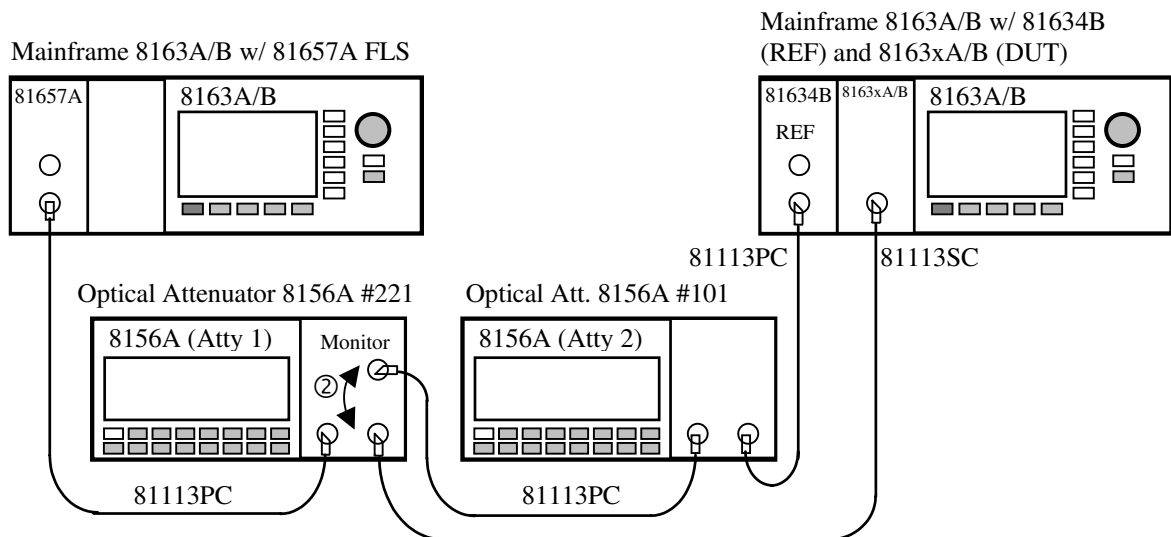

Figure 4 Measurement Setup for Power Linearity
- 3** Setup the equipment as shown in Figure 4. Disable both attenuators and enable the laser source, where the source wavelength is chosen to 1550 nm. If you are using the 81657A, move to the wavelength parameter, [λ], press *Enter*, select the longer wavelength source (1550 nm nominally), and press *Enter*.